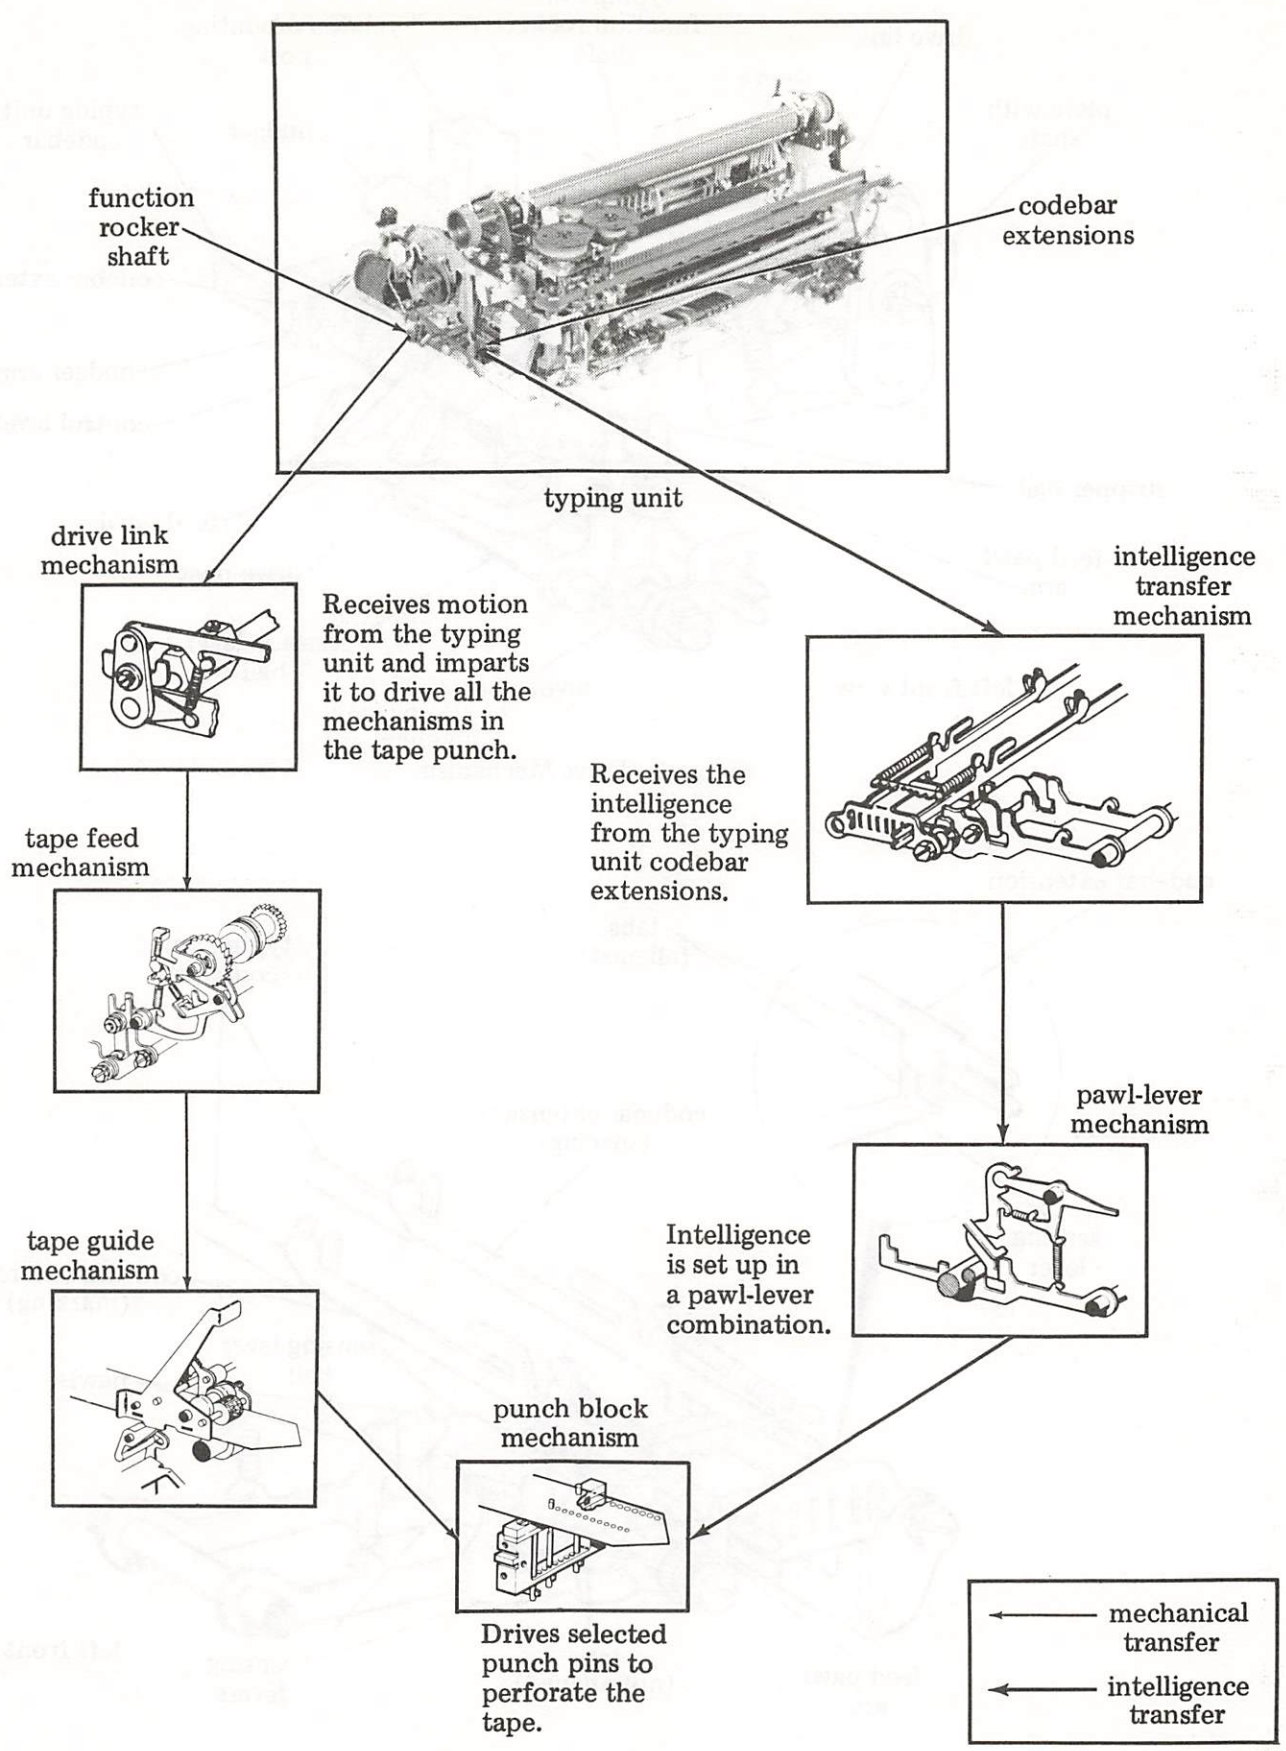

Figure 2 - Functional Diagram of Tape Punch Mechanisms
3.01 The following paragraphs give detailed information on the major mechanisms of the tape punch (Figure 2). Also, the information applies to both the manual punch and the automatic punch. Control features peculiar to each punch are discussed in Part 4.